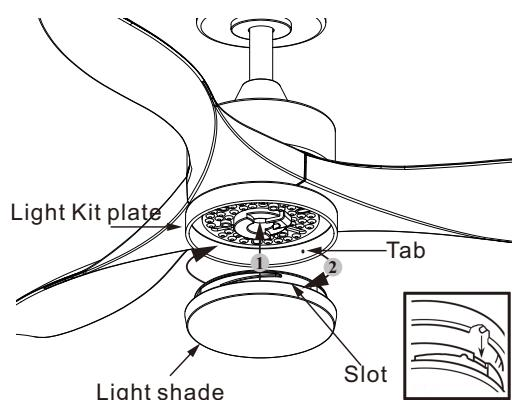

Figure 19
Step 4. Install light shade up against light kit plate and secure it to the fan by turning the light shade clockwise until snug. (DO NOT OVERTIGHTEN). (Fig.19)